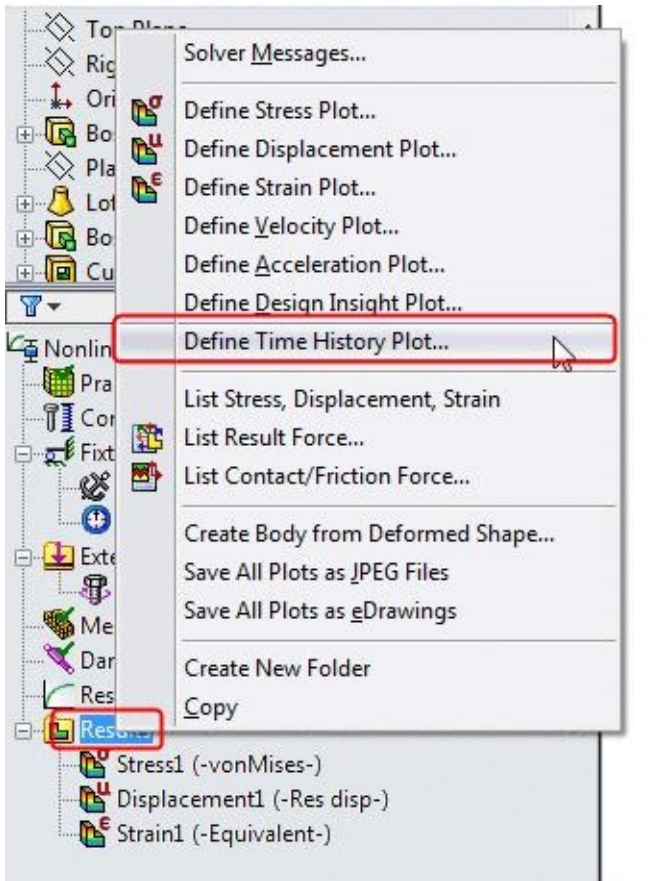

Figure-25. Shortcut menu for Time response curve
- Right-click on the **Result** node in the **Analysis Manager**. A short-cut menu will be displayed; refer to Figure-25.